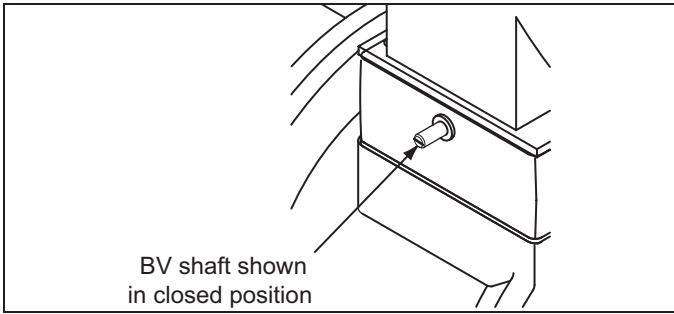

Figure 4.5 Air Butterfly Valve Shaft
- b. There is a slot in the end of the butterfly valve shaft that is parallel to the air damper. This slot is used for visual indication of the butterfly valve position. The butterfly valve is closed when the shaft slot is perpendicular to the direction of air flow through the butterfly valve. See Figure 4.5.